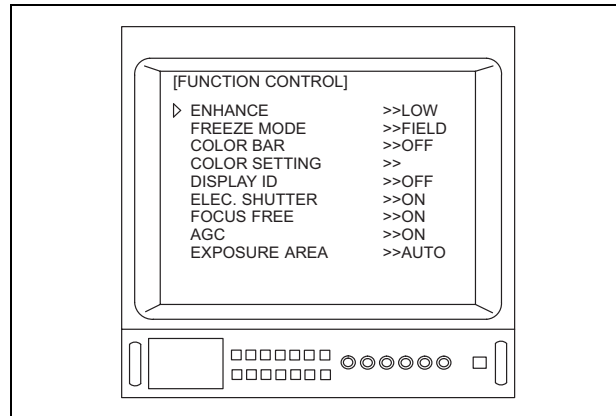

Figure 5.40
4. Depress the menu switches “◀” or “▶”, or the “↑/↓/←/→” key on the keyboard to move the arrow “▷” to “ENHANCE” (see Figure 5.40).
- When the OTV-S7V is connected to the ENF-V, CYF-V/VA or HYF-V, “ELEC. SHUTTER” and “EXPOSURE AREA” shown in Figures 5.40 and/or 5.41 are not displayed.
- When the OTV-S7V is connected to the LTF-V3 or A500**A series, “EXPOSURE AREA” shown in Figures 5.40 and/or 5.41 is not displayed.
- When the OTV-S7V is connected to a camera head without the focus free function, or to a videoscope, “FOCUS FREE” shown in Figures 5.40 and/or 5.41 is not displayed.
- Depending upon the OTV-S7V’s settings, the menus shown in Figures 5.40 and/or 5.41 may appear different from those displayed on the video monitor.